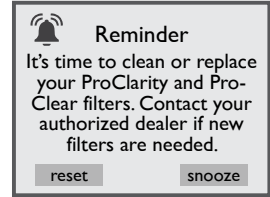

Figure 12.6h
4. When the timer expires, a message will appear on the control panel display, Figure 12.6h. The filters must be cleaned or replaced. Follow the instructions above to reset the timer. If you tap “snooze” the message will clear but the error icon will display and the reminder screen will reappear in 10 days. Refer to Section 13.1, page 61, for cleaning instructions.